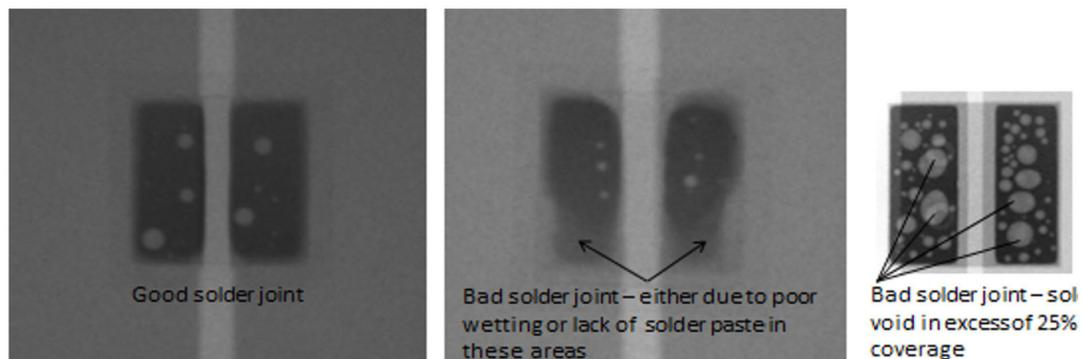

Figure 23. Example of good and bad x-ray result of a representative LED package.
1. Solder voids – perform x-ray inspection. Keep solder void to less than 25% coverage (Figure 23)